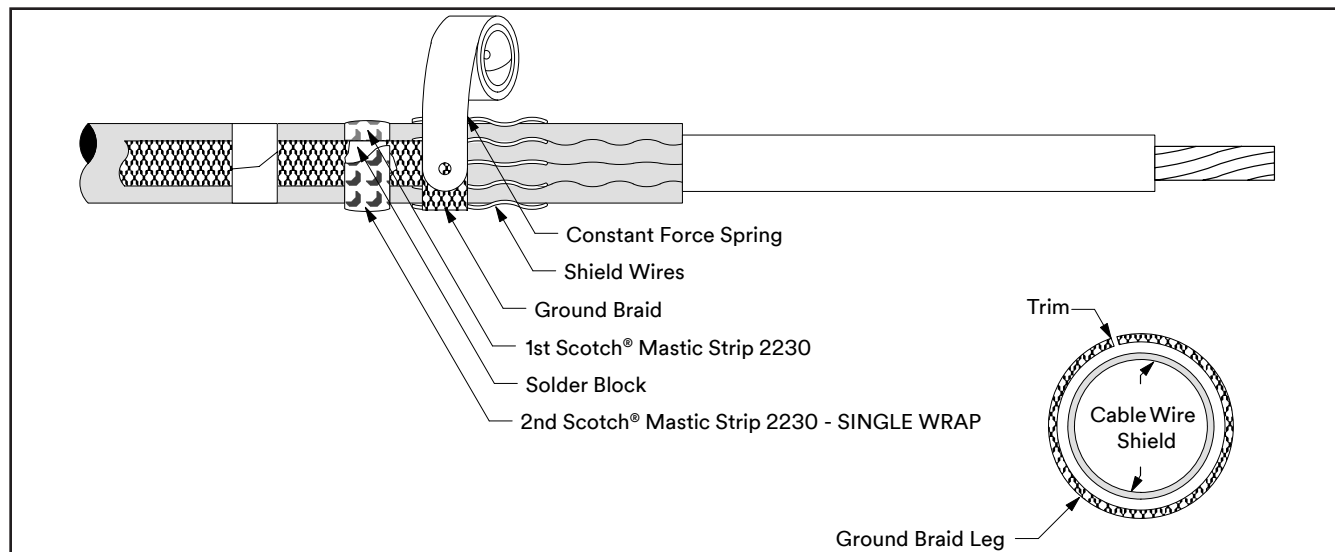

Figure 23
13.3 Wrap ground braid around cable shield wires one complete wrap, trim excess at approximately a 45 degree angle, and line up with the pre-bent 45 degree angle already on the ground braid, to prevent overlap. Secure in place with constant force spring. Wrap spring in same direction as ground braid (Figure 23). Cinch (tighten) the spring after wrapping the final winding.
13.4 Select second Scotch® Mastic Strip 2230 from kit and remove white release liners. Apply a second **SINGLE WRAP** of mastic over solder block on ground braid and previously applied mastic (Figure 23). Cut off excess.